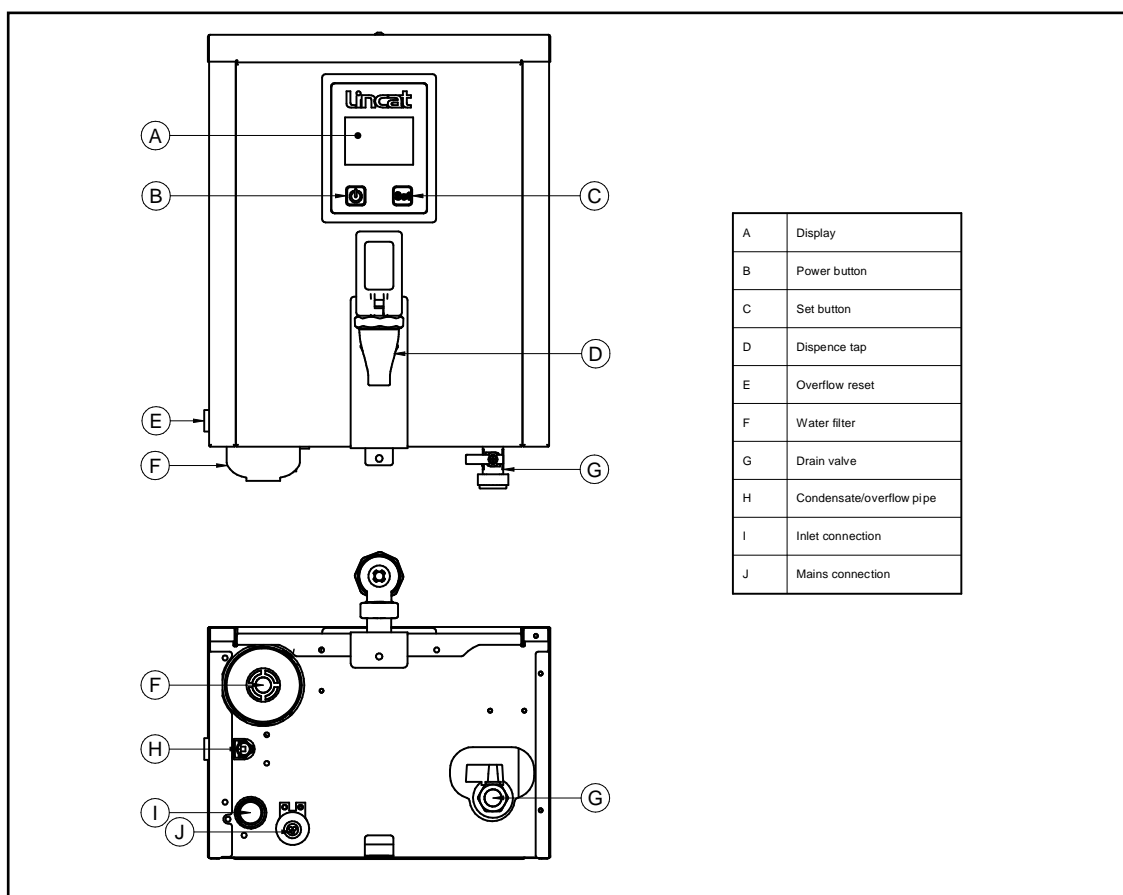

Fig 2
Connect the condensate/overflow pipe (Fig 2 B) to a suitable drain, considering any applicable local water regulations.
- Drain all the water out of the tank– (Fig 2 G)